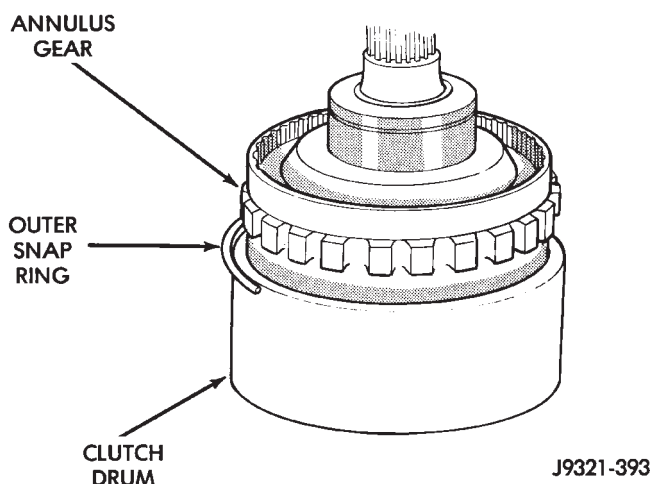

Fig. 37 Installing Clutch Drum And Outer Retaining Ring
(4) Align and install clutch drum on annulus gear (Fig. 37). Be sure drum is engaged in annulus gear lugs.
(5) Install clutch drum outer retaining ring (Fig. 37).